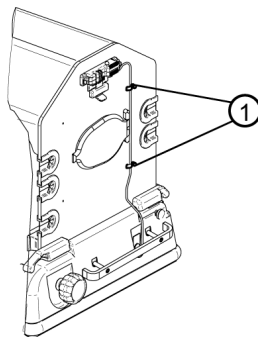
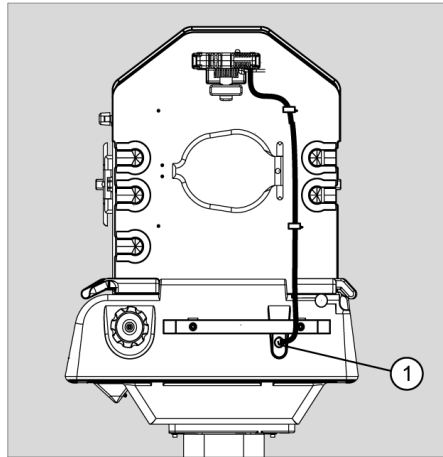

Fig. 25 Side view of Isolette®: cable guides
Fig. 26 Side view of Isolette®: sensor module connector
- 25** Insert the sensor module cable into the cable guides (Fig. 25/1). All extra length of the cable should be between the lowest cable guide and the shell connection, see Fig. 26.
26 Plug the connector (Fig. 26/1) of the sensor module into the jack.